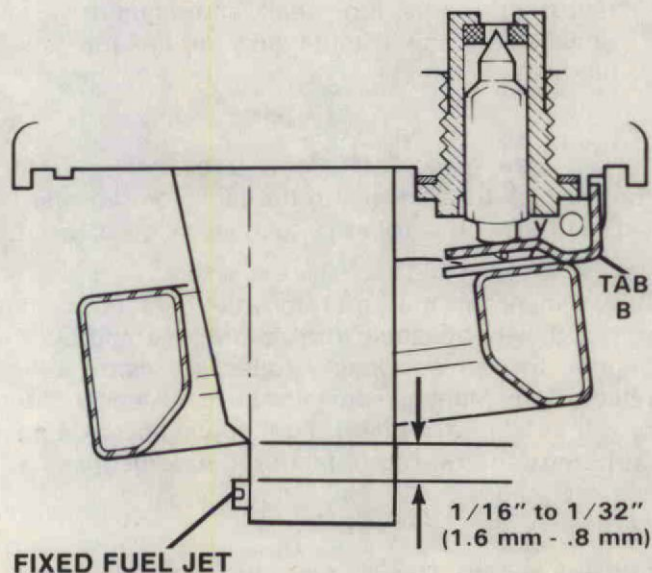

Figure 19. Adjusting Float Drop.
A. Hold carburetor up-right. Distance between bottom of float and fixed fuel jet to be $1/16''$ - $1/32''$ (1.6 mm - .8 mm). Figure 19.